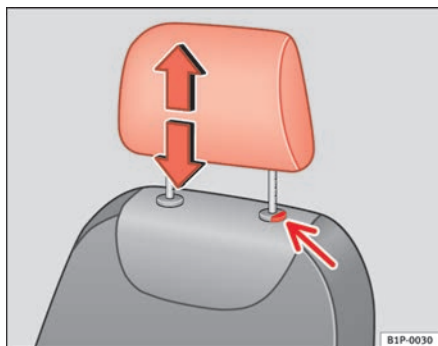

Fig. 90 Adjusting and removing the head restraints
- Press the button ⇒ fig. 90 (arrow).